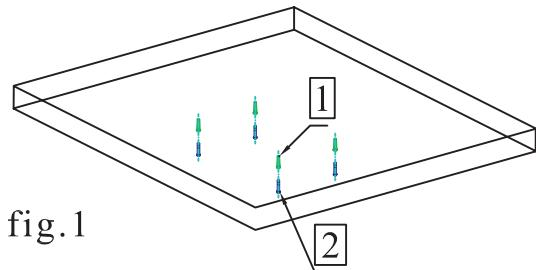

fig.1
**Step one:** Position your mounting plate centered above your range. Mark the mounting holes. Take the mounting plate down and screw your mounting screws into place. fig.1